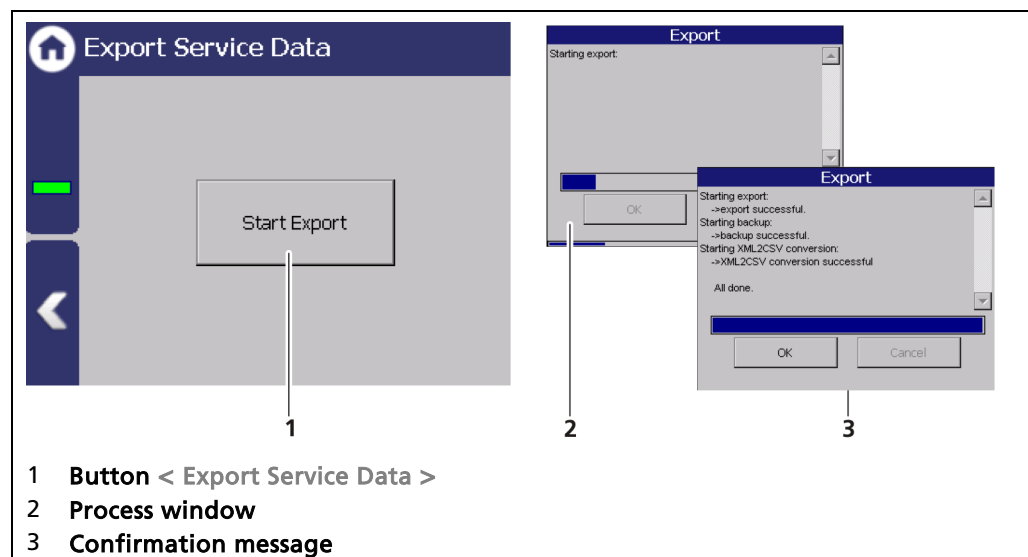

Fig. 146 Export Service Data
2. The USB storage is recognised by the system after a few seconds and the button < Export service data > (Fig. 146, item 1) can be clicked.
3. Click on the button < Export service data > (Fig. 146, item 1).
- ▶ The process window is displayed and the export of service data will be carried out (Fig. 146, item 2).
- ▶ After successful export a confirmation message (Fig. 146, item 3) is displayed. A new folder "Backup_LB470" is created and the Backup-File (.xml) is copied when exporting.
6. Remove all lines from the terminal board (Fig. 146, item 4).